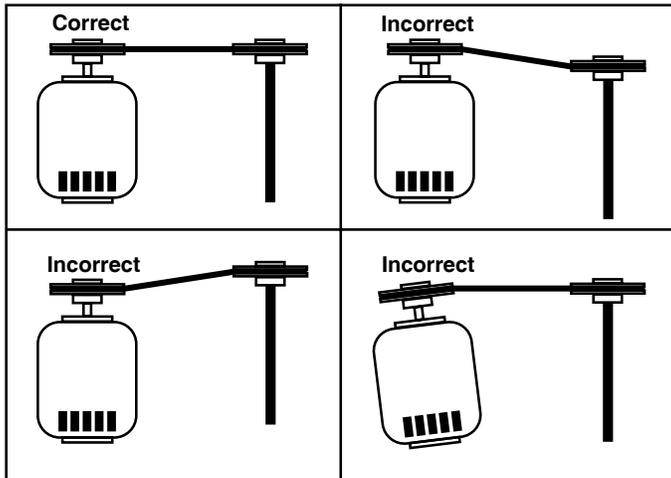
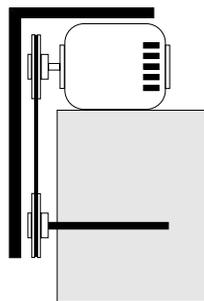

Figure 4
Figure 5
- Ensure pulleys are properly aligned. Refer to *Figure 4*.
*Figure 4* illustrates correct and incorrect pulley alignment. A recommended method of inspecting the pulley alignment is shown in *Figure 5*. With the shorter leg of a carpenter's square or other straight edge lying along the case of the motor, adjust the position of the motor pulley (or the motor until the longer leg of the square is parallel to the belt.